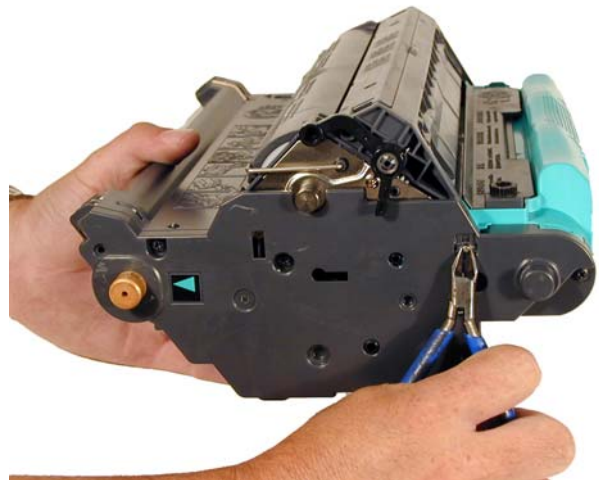

Figure 1
1) With the wire cutters, remove the two pins from each side of the cartridge. If the pins are recessed, press in on the plastic with the cutters. See **Figures 1 & 2**